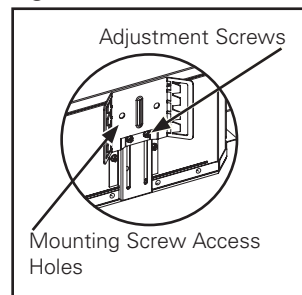
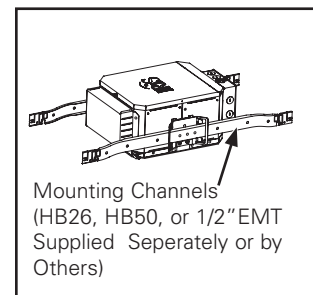

Figure 4.
Figure 5.
- The PN3LED12 housing platform is equipped with universal hanger brackets (Figure 4.). The height of each hanger bracket can be adjusted by loosening the two adjustment screws, setting the bracket height and re-tightening the adjustment screws to secure the bracket in position.
- The housing platform should be supported by main runners or other structure that is capable of supporting a fixture weight of 10 pounds (Figure 5.). To accommodate tighter joist spacing, remove universal hanger brackets by adjusting bracket to the highest position and removing the mounting screws (Figure 4.). After removing hanger brackets, reinstall the mounting screws onto the housing to maintain airtight construction.